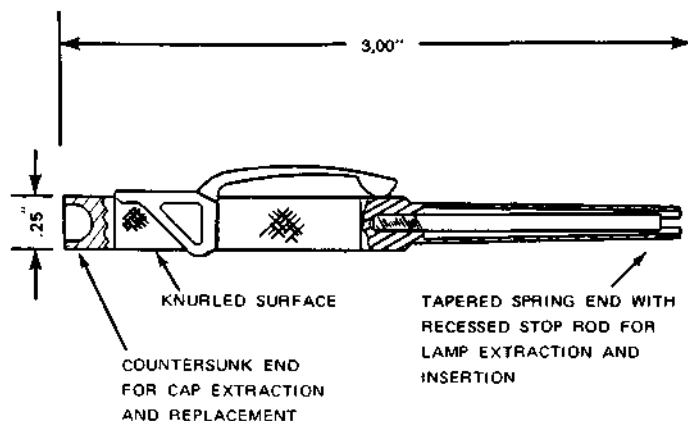

Fig. 1—Extractor, KS-21144 L1
2.01 The KS-21144 extractor (Fig. 1) is a double-ended tool with a countersunk hole at one end for removing and replacing a lamp cap. The other end is equipped with a tapered slotted spring which is used for removing and replacing lamp bulbs. The extractor is also equipped with a pocket clip.